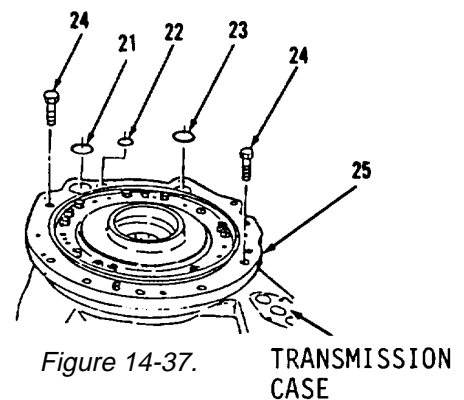

Figure 14-37.
16. Remove and discard preformed packings (21, 22 and 23, Figure 14-37) from planetary housing (25).
17. Remove two bolts (24) from planetary housing (25) in transmission case.